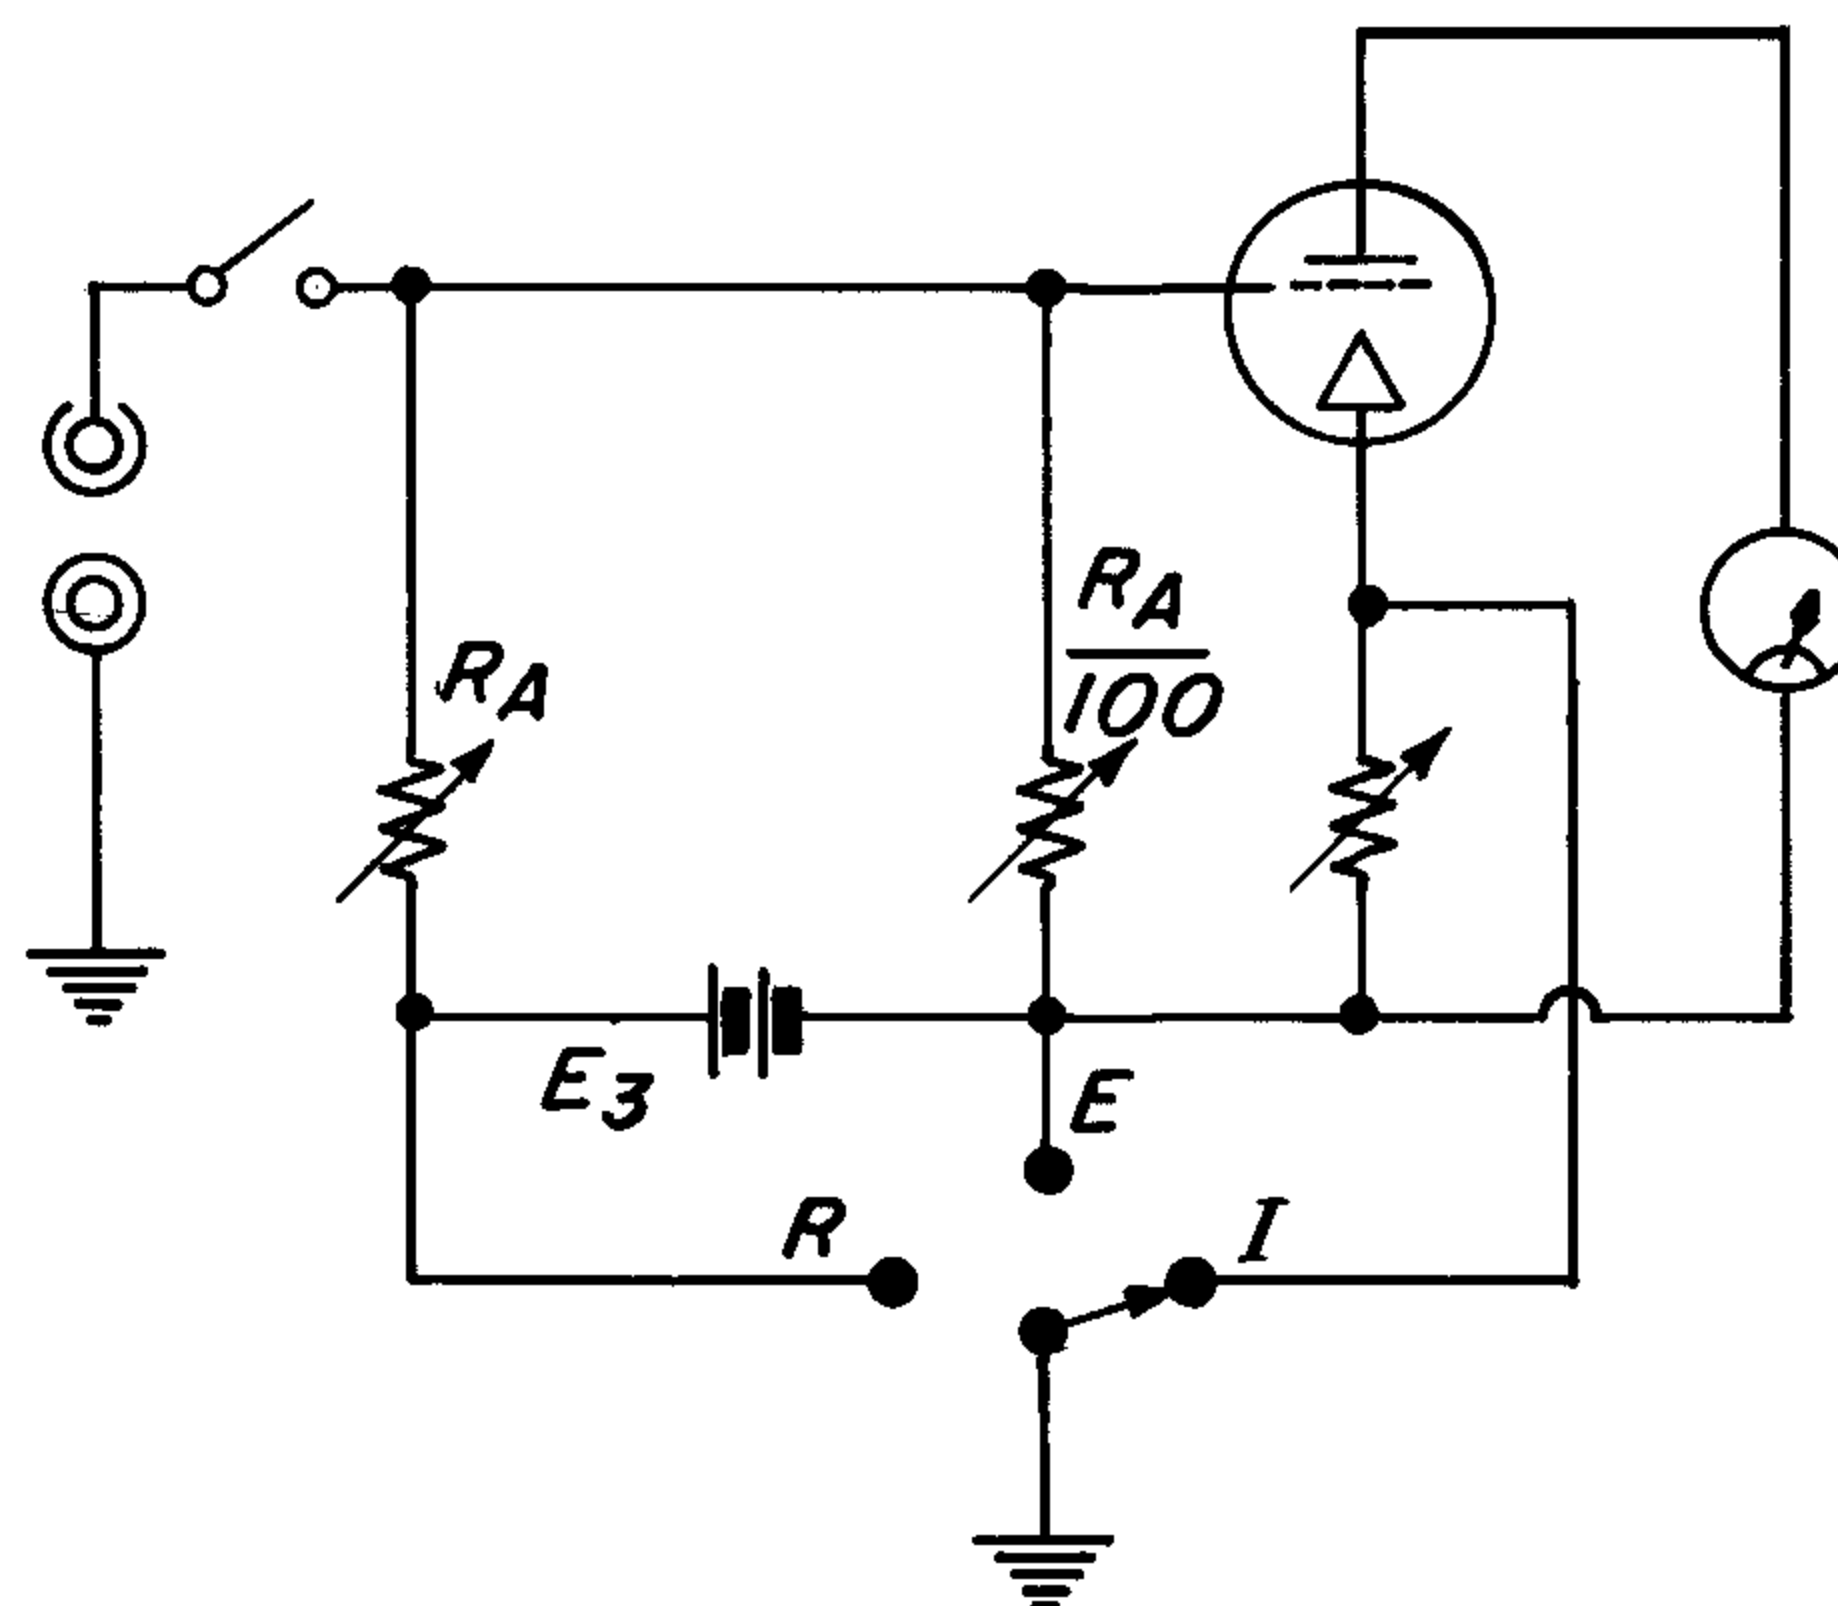

Figure 11. Check on Internal Resistance Standard.
5.1 CHECKING INTERNAL RESISTANCE STANDARDS. When the MV-VOLTS-OHMS switch is set in the CHECK position, the instrument indicates the resistance of any higher RESISTANCE MULTIPLIER standard. This indication is given on the 90 OHMS scale. (See Figure 11.) The resistance of the standard, R_A , is given in terms of the standard two steps below it ($\frac{R_A}{100}$). The lower-resistance standards (10^4 ohms and 10^5 ohms) are wire-wound resistors, accurate to ± 0.25 percent. Since the meter reading is near full scale, the higher standards can be checked with a considerable degree of accuracy. A single measurement is sufficient to determine the correct value of either the 10^6 -ohm or 10^7 -ohm standard. Two measurements are required to determine the value of either the 10^8 -ohm or 10^9 -ohm standard. (For instance, the 10^9 -ohm standard is measured in terms of the 10^7 -ohm standard, and the 10^7 -ohm standard is in turn measured in terms of the 10^5 -ohm standard.) Three measurements are necessary to determine the value of either the 10^{10} -ohm or 10^{11} -ohm standard. The preliminary zero setting, which is ∞ on the OHMS scale, should be made with the INPUT RESISTANCE OR OHMS MULTIPLIER switch set at 10^5 ohms for greatest accuracy. The GROUND switch may be set at any of its three positions. Lock the ZERO (PUSH) in to open the INPUT terminal.